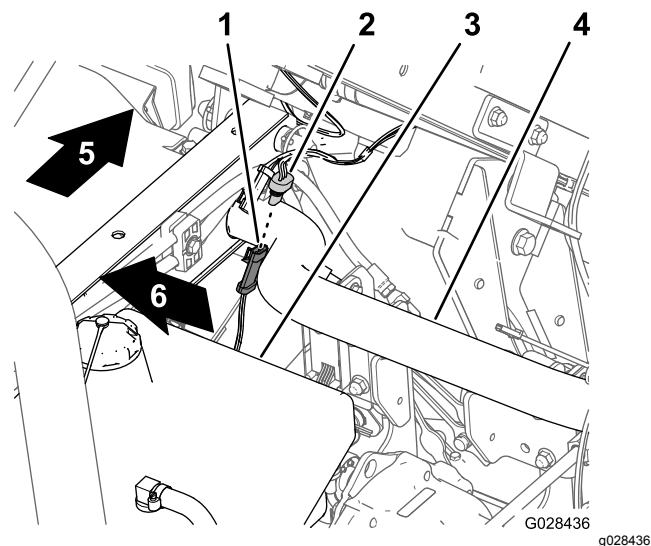

Figure 17
- At the wire harness for the sprayer, locate the 3-socket connector for the speed sensor circuit (Figure 17).
2. Connect the 3-pin connector of the wire harness of the machine for speed sensor into the 3-socket connector of the sprayer harness for the speed sensor (Figure 17).